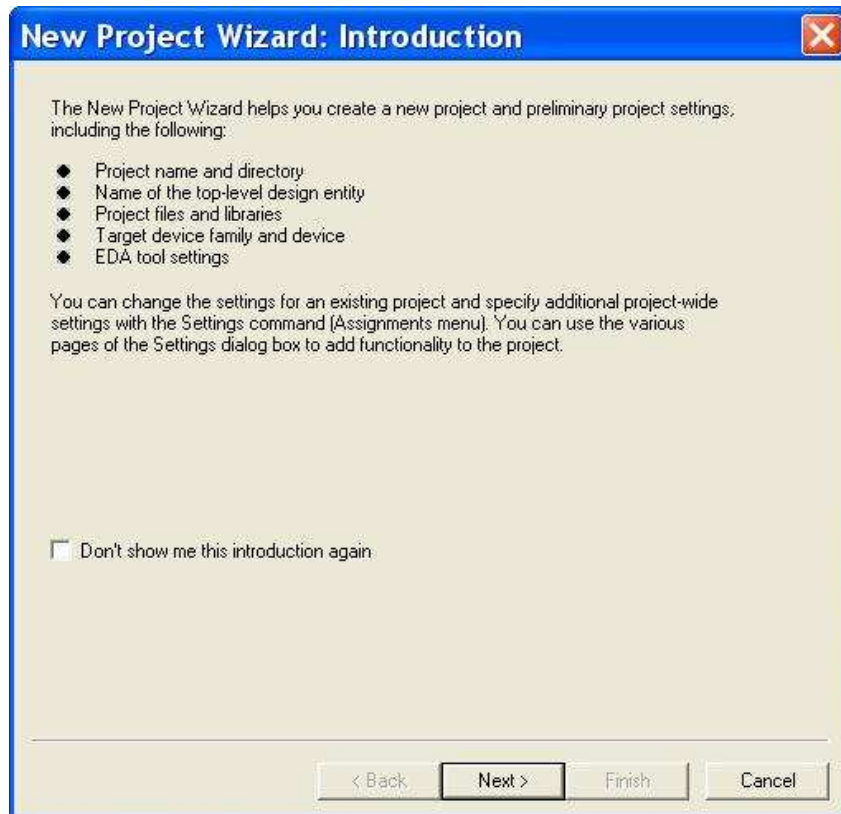
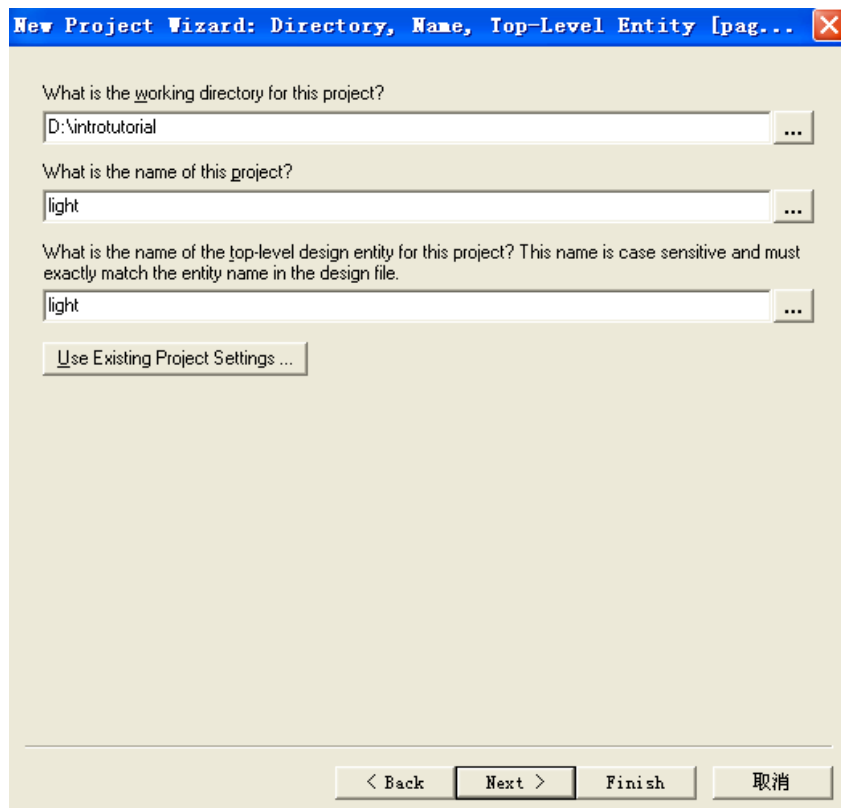
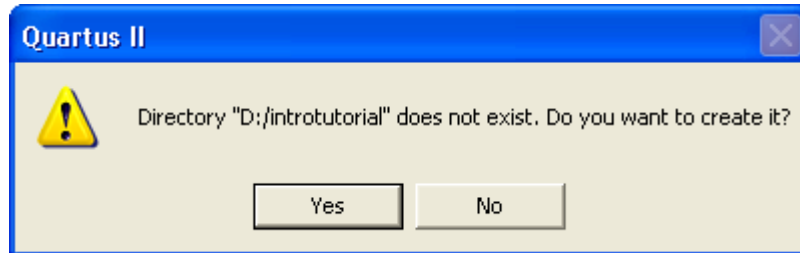
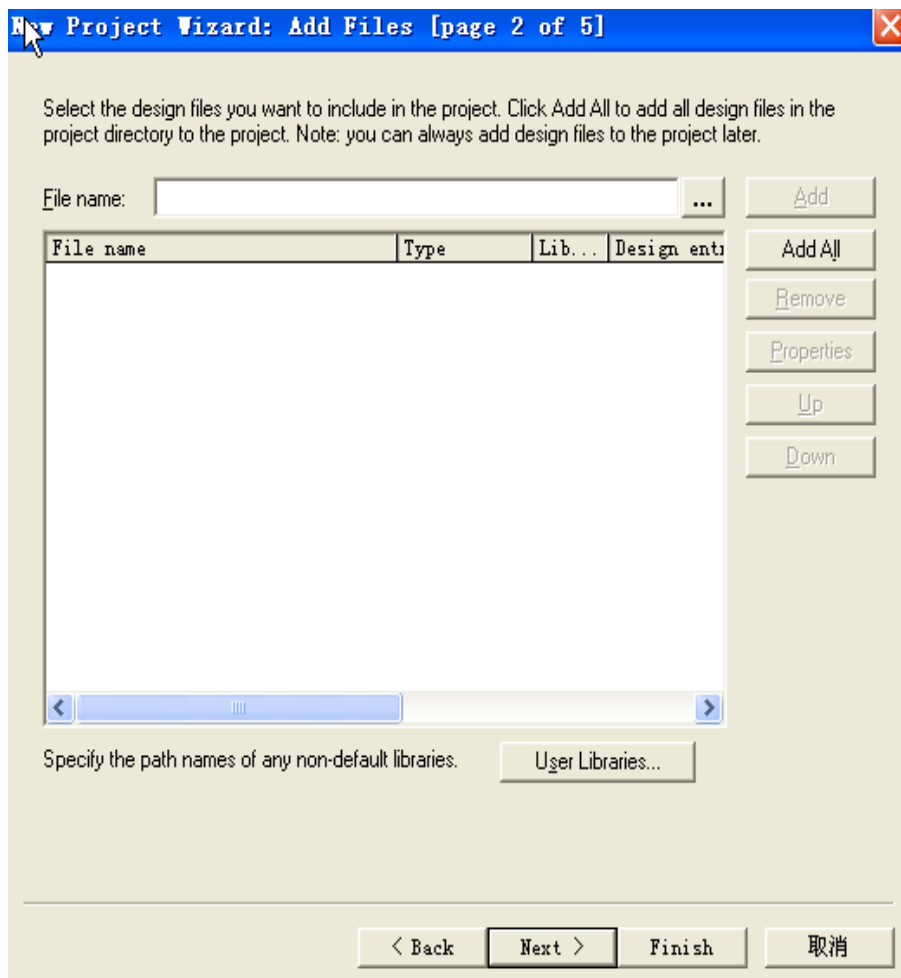

Figure 4. Tasks performed by the wizard.
Figure 5. Creation of a new project.
Figure 6. Quartus II software can create a new directory for the project.
Figure 7. The wizard can include user-specified design files.
1. Select **File > New Project Wizard** to reach the window in Figure 4, which indicates the capability of this wizard. You can skip this window in subsequent projects by checking the box **Don't show me this introduction again**. Press **Next** to get the window shown in Figure 5.
2. Set the working directory to be introtutorial; of course, you can use some other directory name of your choice if you prefer. The project must have a name, which is usually the same as the top-level design entity that will be included in the project. Choose light as the name for both the project and the top-level entity, as shown in Figure 5. Press **Next**. Since we have not yet created the directory introtutorial, Quartus II software displays the pop-up box in Figure 6 asking if it should create the desired directory. Click **Yes**, which leads to the window in Figure 7.
The required circuit is described by the Verilog code in Figure 13. Note that the Verilog module is called light to match the name given in Figure 5, which was specified when the project was created. This code can be typed into a file by using any text editor that stores **ASCII** files, or by using the Quartus II text editing facilities.
As we indicated when discussing Figure 7, you can tell Quartus II software which design files it should use as part of the current project. To see the list of files already included in the light project, select **Assignments > Settings**, which leads to the window in Figure 17. As indicated on the left side of the figure, click on the item **Files**. An alternative way of making this selection is to choose **Project > Add/Remove Files in Project**.